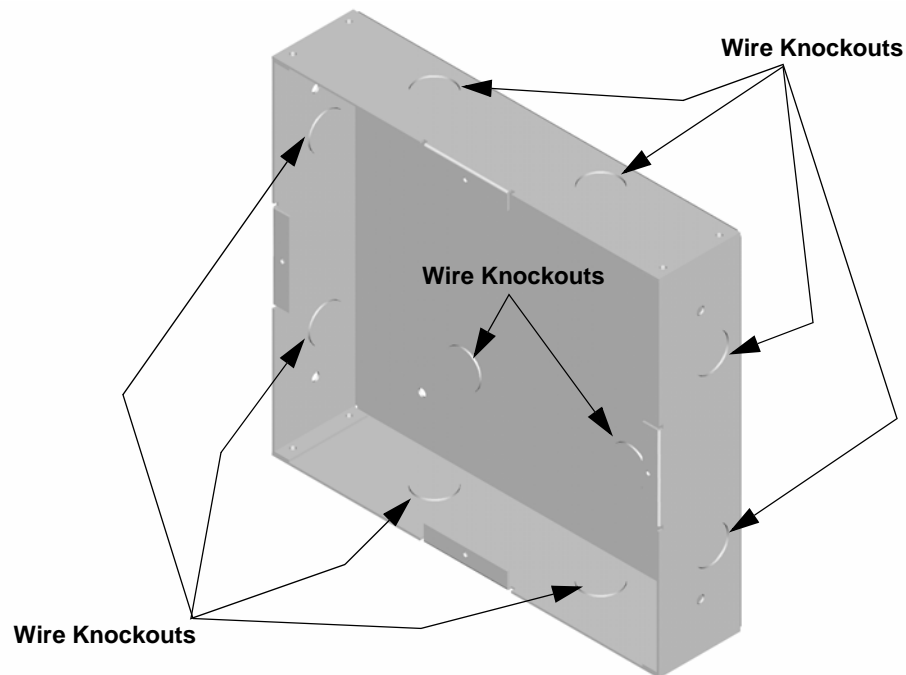

Figure 4-11 Back Box Knockout Locations
2. Remove knockout holes as needed for wires. See Figure 4-11 for backbox knockout locations.
1. Remove the desired knock out. See Figure 4-11.